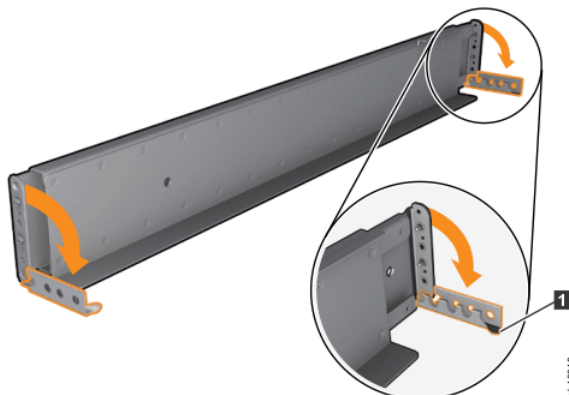

Figure 111. Opening the hinge brackets
6. At each end of the rail, grasp the tab **1** and pull *firmly* to open the hinge bracket (see Figure 111 on page 177).